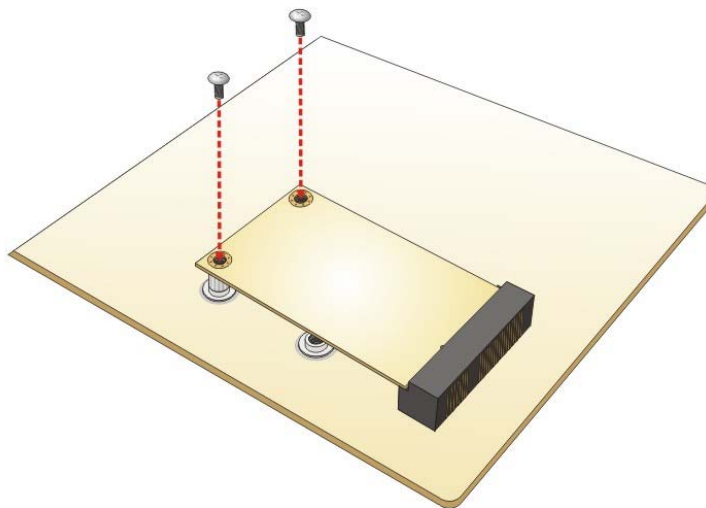

Figure 3-11: Securing the PCIe Mini Card
Step 5: **Secure the PCIe Mini card.** Secure the PCIe Mini card with the retention screws previously removed (**Figure 3-11**).